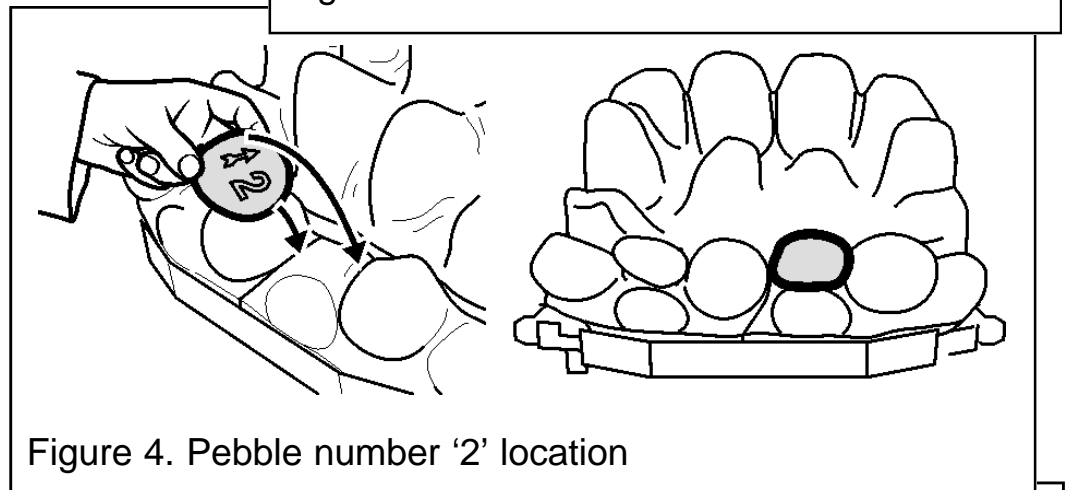

Figure 4. Pebble number '2' location
6. Hold Pebble '2' upright with the arrow pointing to the top. Locate Pebble '2' as shown in figure 4. It should lie on top of the right hand front pebbles.